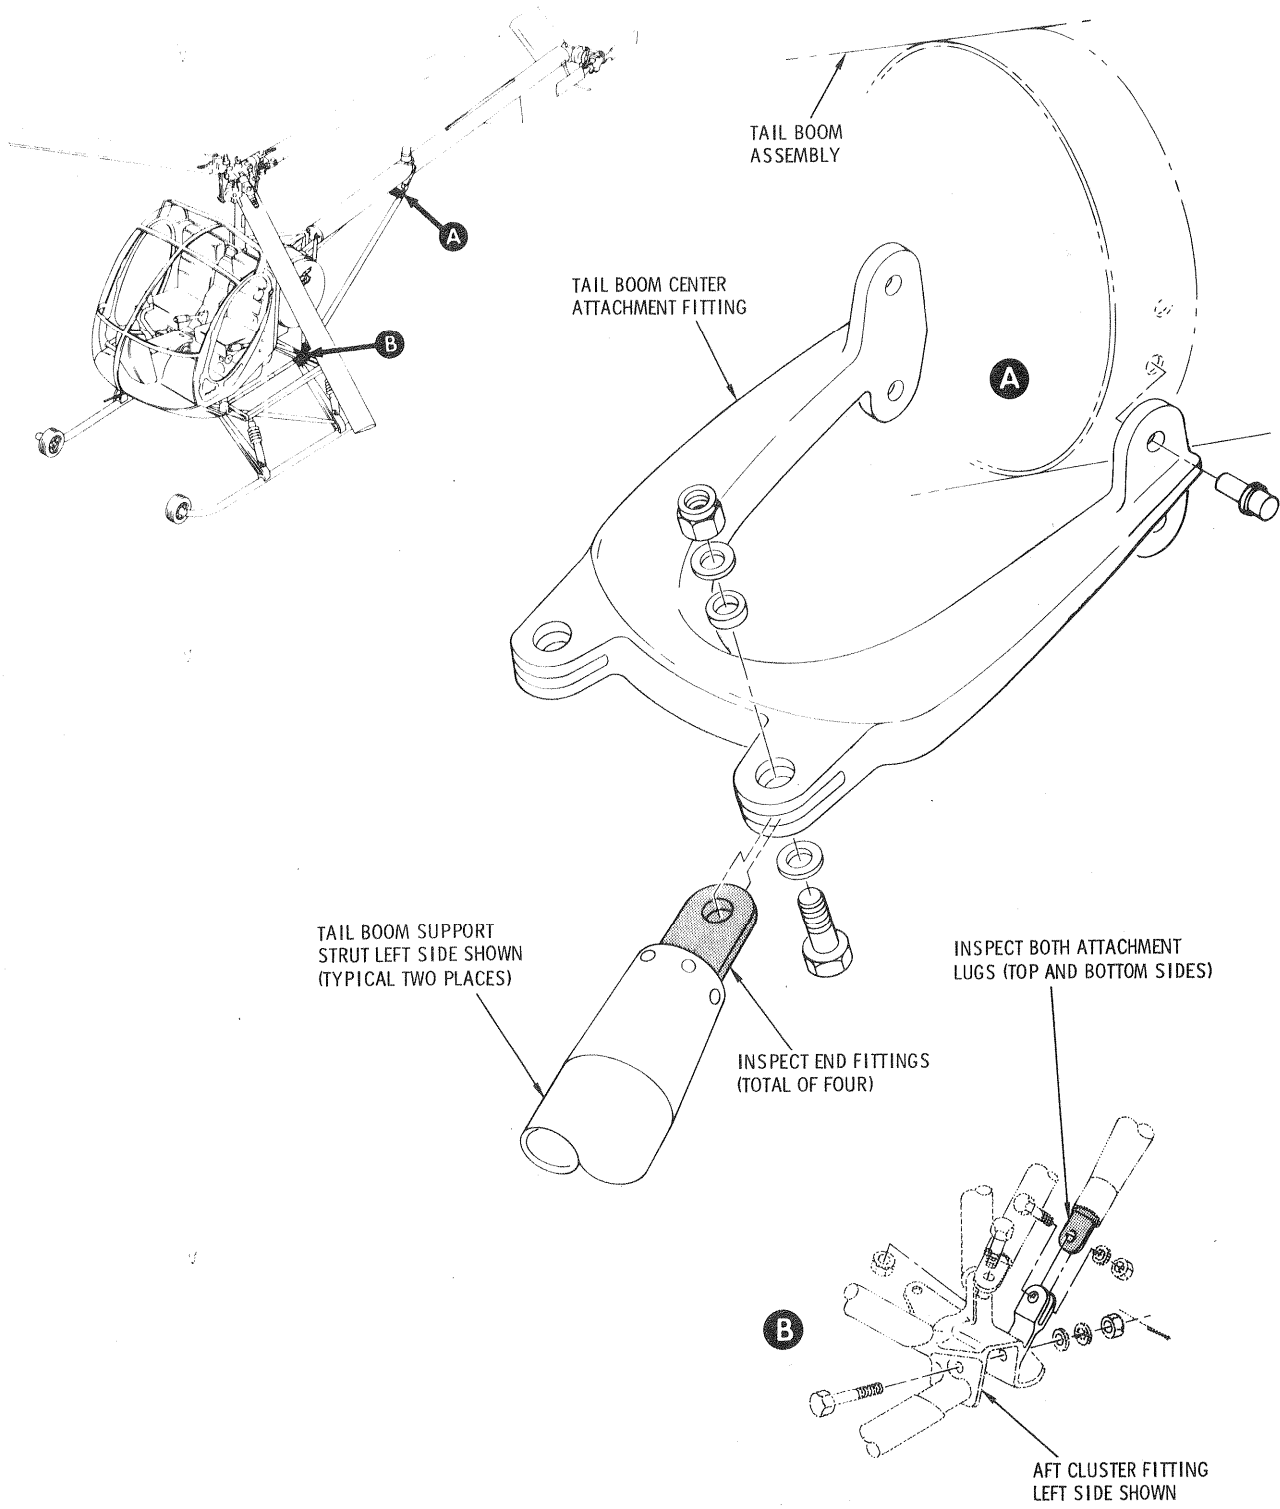

Figure 1. Inspection - tailboom support struts
c. Apply dye penetrant solution to upper and lower surfaces of tailboom strut end fittings (see figure 1). Using 10X magnifying glass, inspect for cracks and other structural damage.